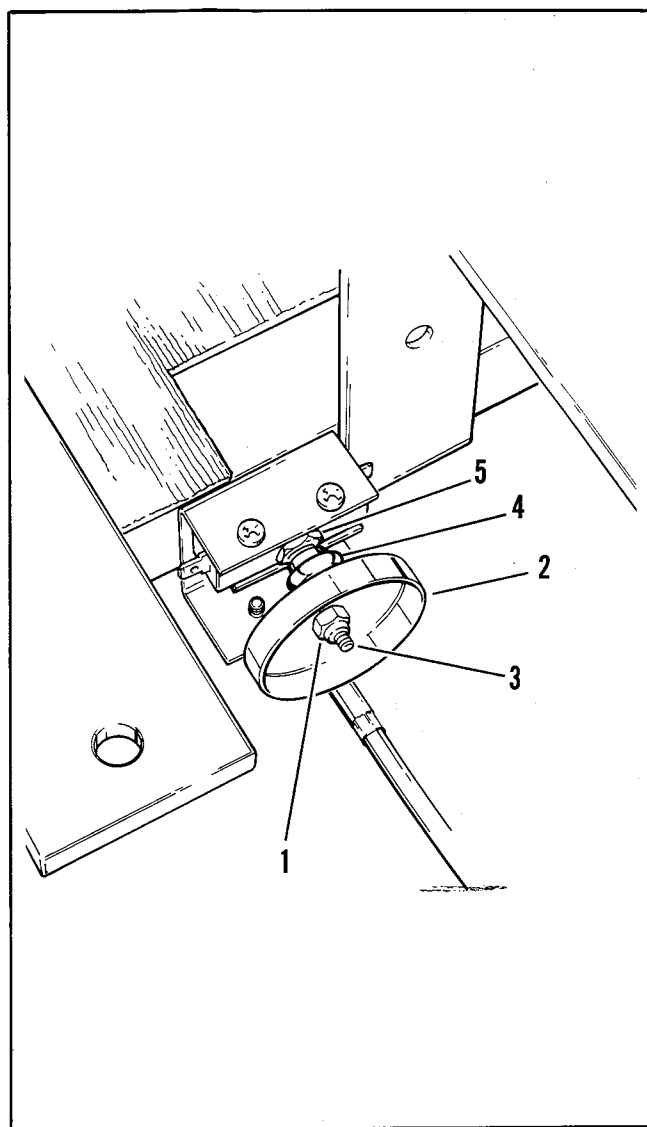
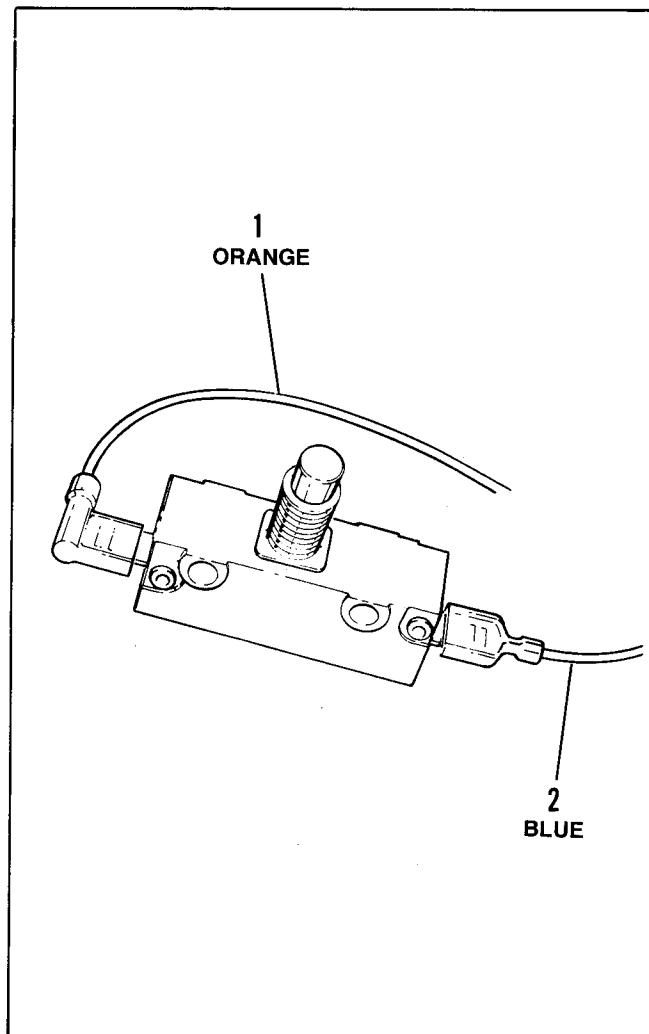

Figure 84 - Accelerator Micro-Switch
Figure 85 – Micro-Switch
39. ACCELERATOR MICRO-SWITCH (Figure 84)
- d. See Figure 85. Disconnect single orange wire (1) and single blue wire (2).
- a. Reconnect single orange wire (1), single blue wire (2), Figure 85, and mount switch using speed nut (5), Figure 84.
- b. Install switch plunger boot (4) to switch, spin on cup (2) and locknut (1), Figure 84.